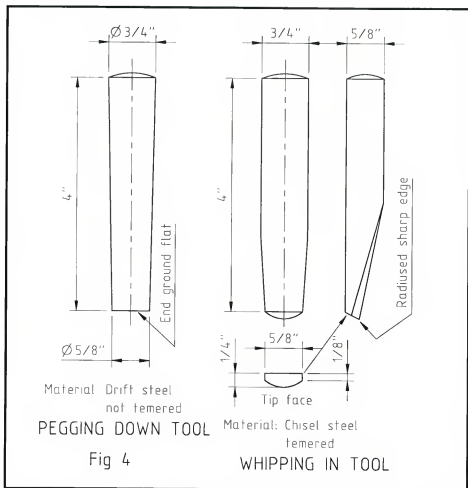

Fig 4
3. Install a new stay. Application of a new stay was achieved using the same technique as was used when the boiler was built. The only difference to note was that the outer end could not be worked with the rotary gun, so hand riveting was required, the end then being pegged-down and whipped-in. A pegging-down tool was usually a drift of $\frac{5}{8}$ " diameter and 4" long. A whipping-in tool was made from chisel steel and was also about 4" long. See figure 4.